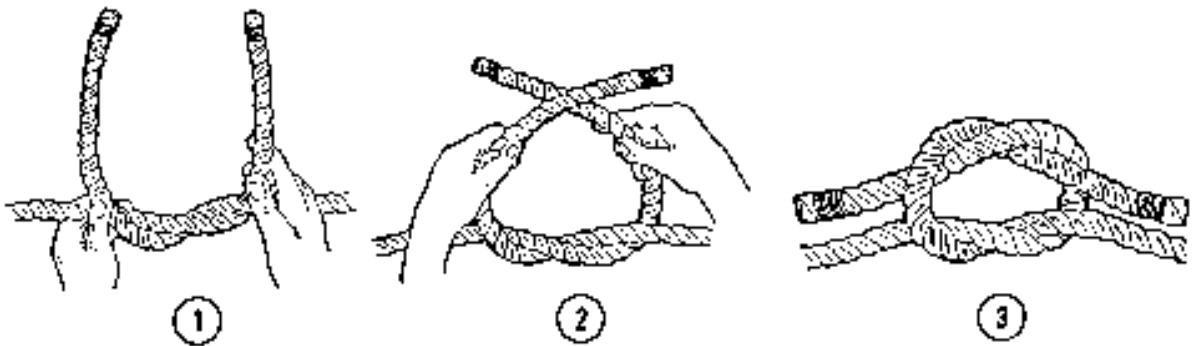

Figure 2-20. Square Knot
(1) Square Knot. This knot is used to join two ropes of equal diameter together. It will be secured on each side by an overhand knot (Figure 2-20).